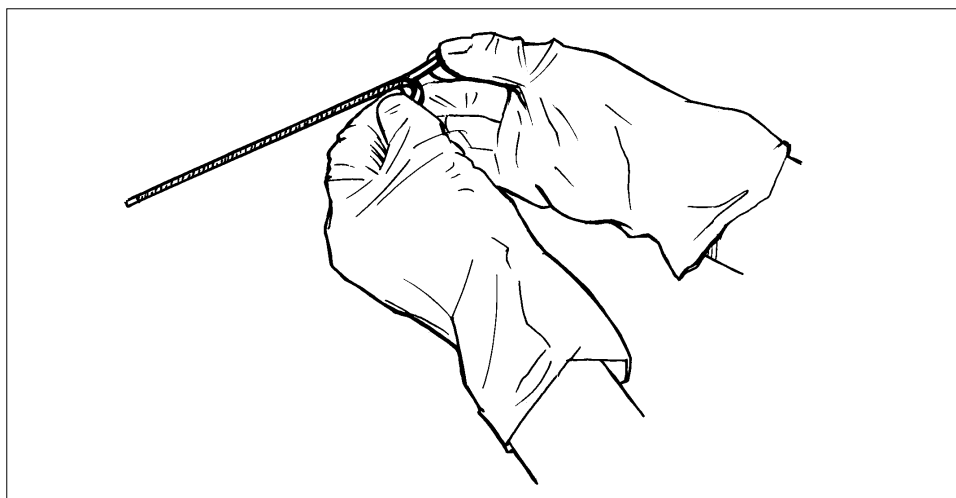

Fig. 2.
- Pull apart the dry strip from its protective cover (Fig. 2).